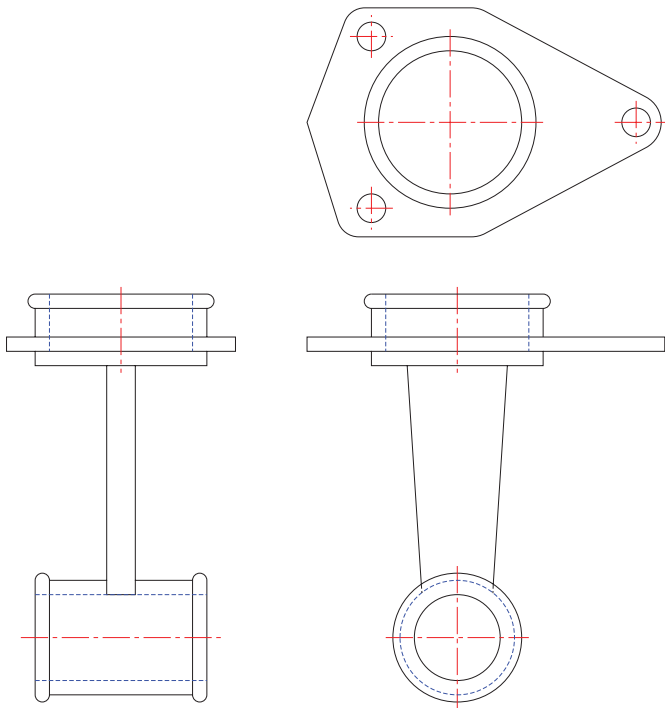

Fig. 14.12 Example – External references – original drawing
1. Complete the three-view drawing Fig. 14.12 working to dimensions of your own choice. Save the drawing to a suitable file name.